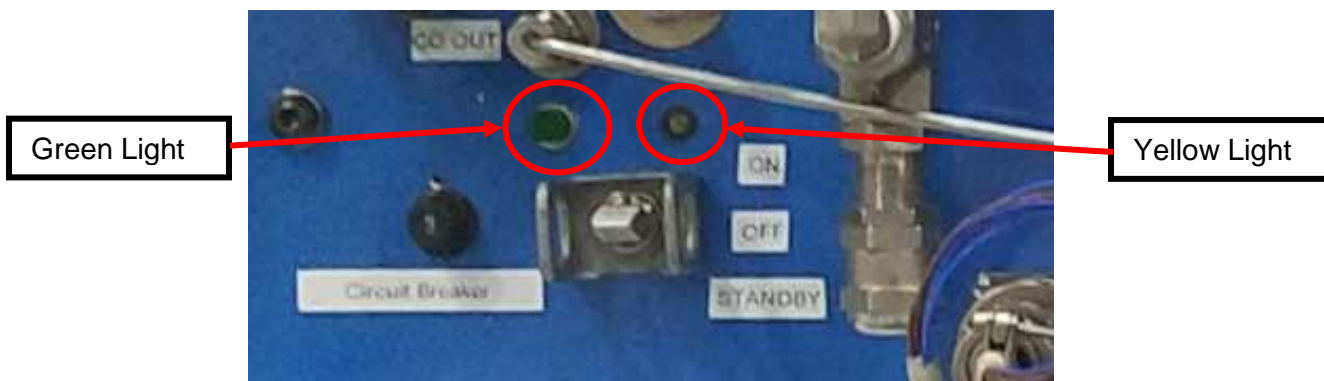

Figure 1: Sabatier Panel
1.3 On the Sabatier Panel, move the power switch to “STANDBY” (see Figure 1).
1.4 Confirm yellow light blinks indicating Sabatier is in Standby mode (see Figure 1).
6.1 Switch Sabatier to "ON" (see Figure 1).